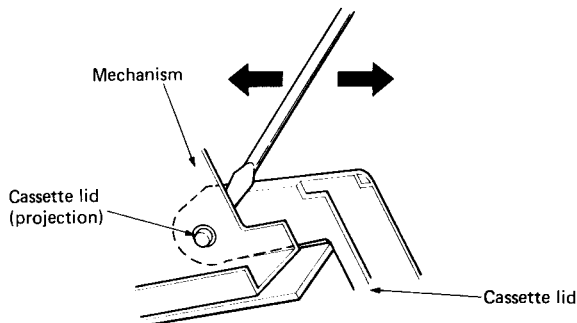

Fig. 3
- 3) Insert a (–) screwdriver between the cassette lid and the mechanism chassis, press it in the direction of the arrow to remove the projection of the cassette lid. (Fig. 3). Then, the cassette lid can be removed.